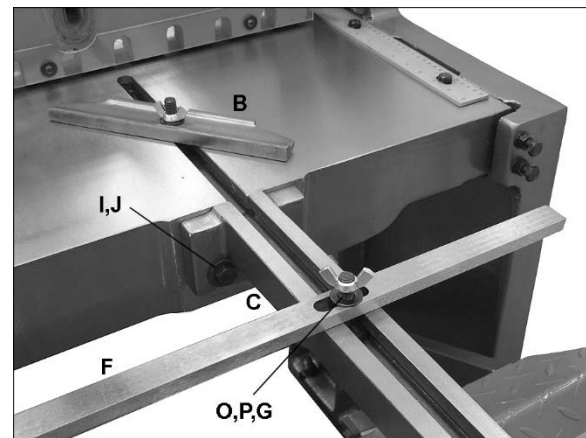

Figure 3
1. Install four hex cap bolts and washers (I/J, Figure 3) loosely into front table edge.
2. Slide extension arm (C) onto bolts, leaving extension arm slightly above table surface. Make bolts snug, and tap down extension arm until level with table surface. Tighten bolts firmly. Repeat for other extension arm.